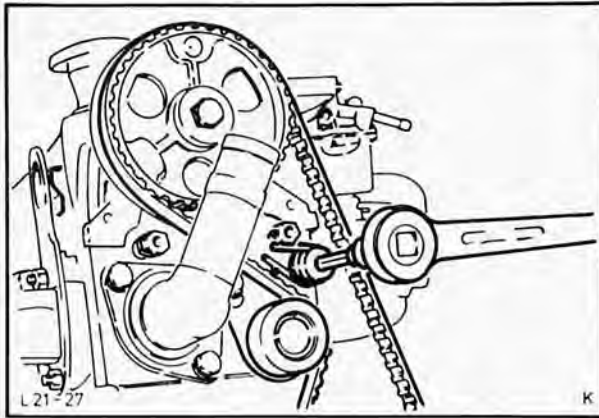

Fig. 196. Slacken toothed belt tensioner using Special Tool 21-012
3. Remove camshaft pulley bolt. Slacken toothed belt tensioner, using Special Tool 21-012 (1 hexagon bolt, 1 special bolt), Fig. 196 against spring pressure and retighten. Remove toothed belt from camshaft belt pulley (see note below).